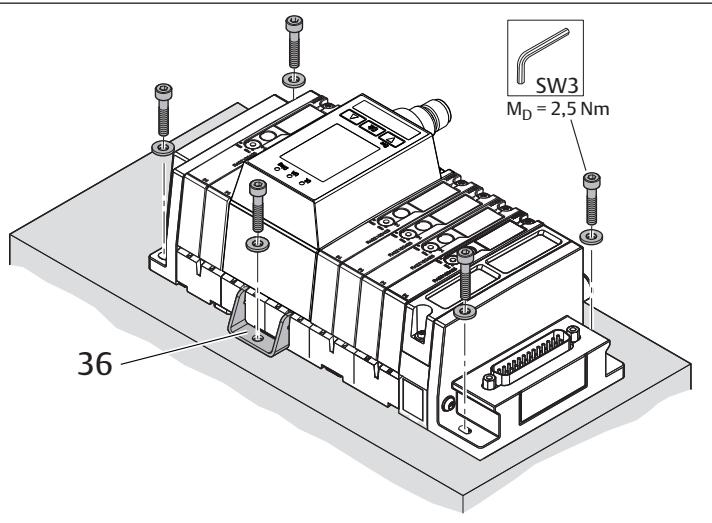

Fig. 11: Fastening the valve system with retaining brackets, example
- To stabilize the valve system, install additional retaining brackets (36) (see Fig. 11). The valve system does not need to be disassembled for this step. Rule of thumb: If there are 17 valve positions or more, an additional retaining bracket is required for every additional 8 valve positions. Example: